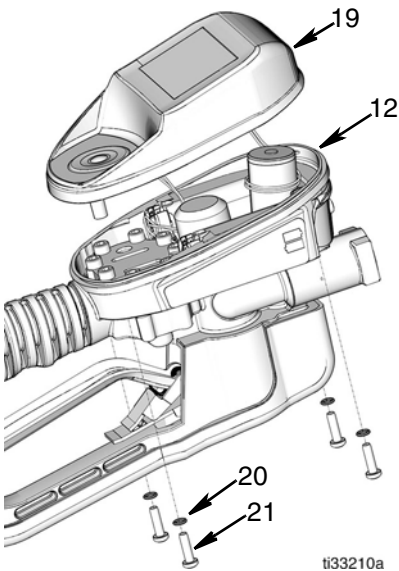

FIG. 23
3. Remove 4 screws (21) and o-rings (20) and carefully lift bezel (19) off housing (12) (FIG. 23).
NOTE: The solenoid and power will still be connected to the bezel via the power connections as shown in FIG. 23. Before the bezel can be completely separated from the housing, these connections must be detached.